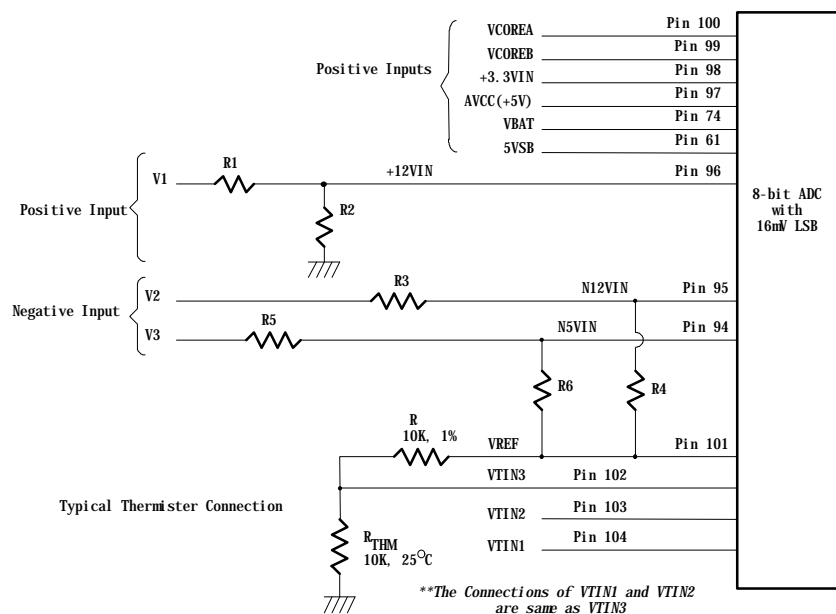

Figure. 11.2
The maximum input voltage of the analog pin is 4.096V because the 8-bit ADC has a 16mV LSB. Really, the application of the PC monitoring would most often be connected to power suppliers. The CPU V-core voltage, +3.3V, battery and 5VSB voltage can directly connected to these analog inputs. The +12V, -12V and -5V voltage inputs should be reduced a factor with external resistors so as to obtain the input range. As Figure 11.2 shows.
The negative voltage should be connected two series resistors and a positive voltage VREF (is equal to 3.6V). In the Figure 11.2, the voltage V2 and V3 are two negative voltage which they are -12V and -5V respectively. The voltage V2 is connected to two serial resistors then is connected to another terminal VREF which is positive voltage. So as that the voltage node N12VIN can be obtain a posedge voltage if the scales of the two serial resirtors are carefully selected. It is recommended from Winbond that the scale of two serial resistors are R3=232K ohms and R4=56K ohm. The input voltage of node N12VIN can be calculated by following equation.
The W83627HF can connect three thermistors to measure three different environment temperature. The specification of thermistor should be considered to (1) β value is 3435K, (2) resistor value is 10K ohms at 25°C. In the Figure 11.2, the themistor is connected by a serial resistor with 10K Ohms, then connect to VREF (Pin 101).